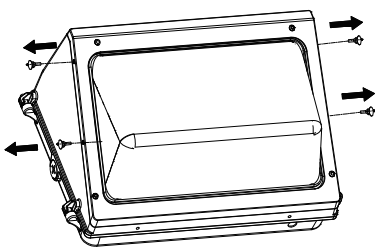

figure 9
1. Remove the 4pcs drain plugs from the housing. (figure 9)